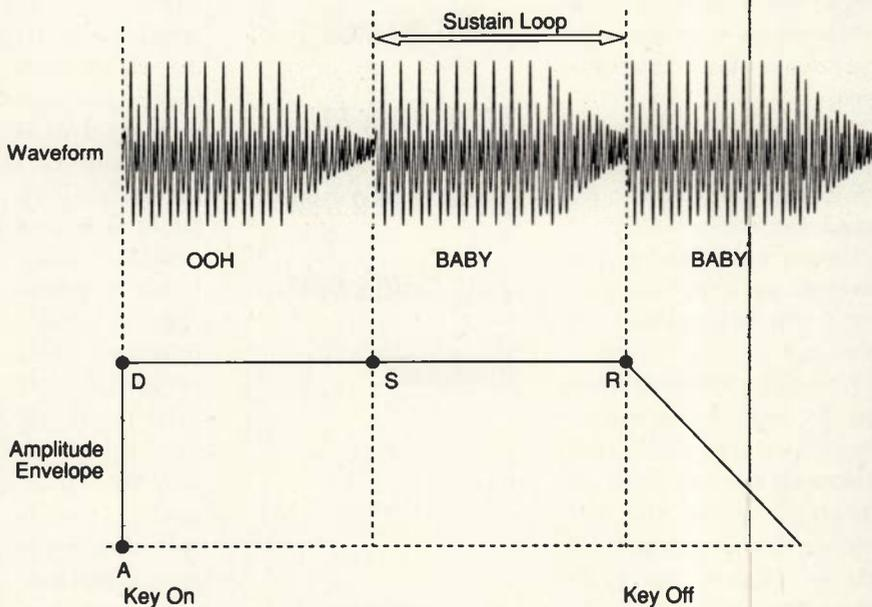

Fig. 3. Sustain loops can perform automatic repetition.
- *Digital echo.* Determine which part of the vocal phrase you wish to repeat, such as the first "baby" from the phrase "Ooh baby, baby." On your sampler, define LOOP START and END points that result in the word "baby" repeating for as long as the key is depressed. Next, turn off the RELEASE LOOP so the sample plays to its end once the key is released. A VCA envelope can be used to control the number of repeats (see Fig. 3).